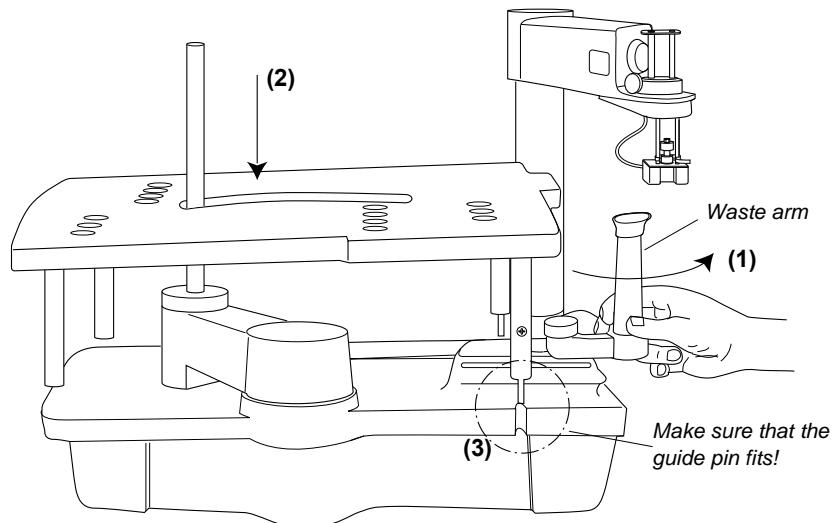

Figure 2-19. Installing a prep mode rack
Install a prep mode rack as shown in Figure 2-19.
- 3 Install the rack. Referring to Figure 2-19 on page 31.